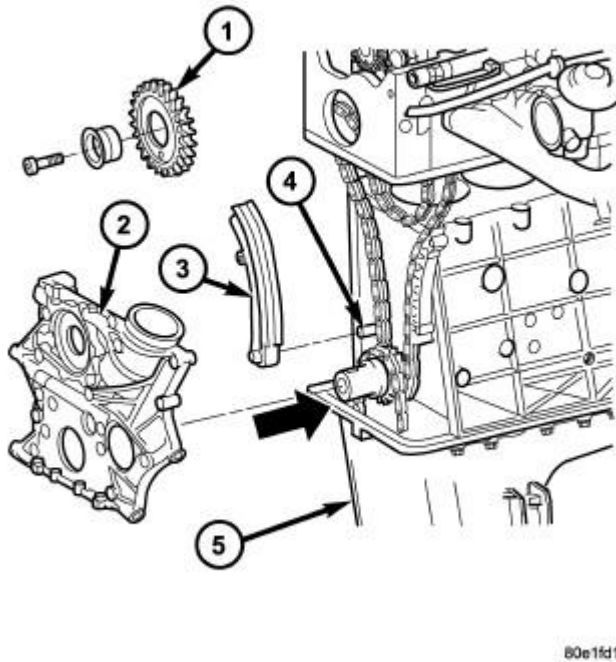

Fig. 312: Timing Chain Cover
4. Apply sealant to the marked surfaces (2) with a bead thickness of 1.5 ± 0.5 mm. See **Fig. 312** .